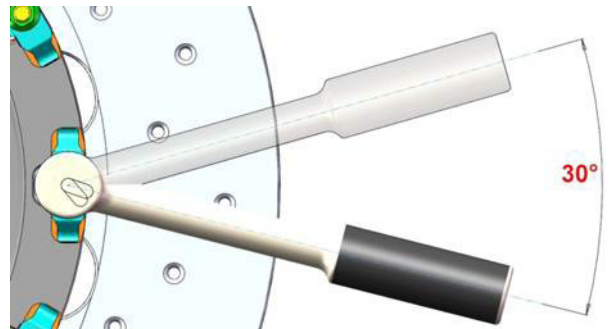

Fig 4. Turn 30° ±2°
Step 5: Continue to turn the nut for a further 28-32°. (Fig 4.)